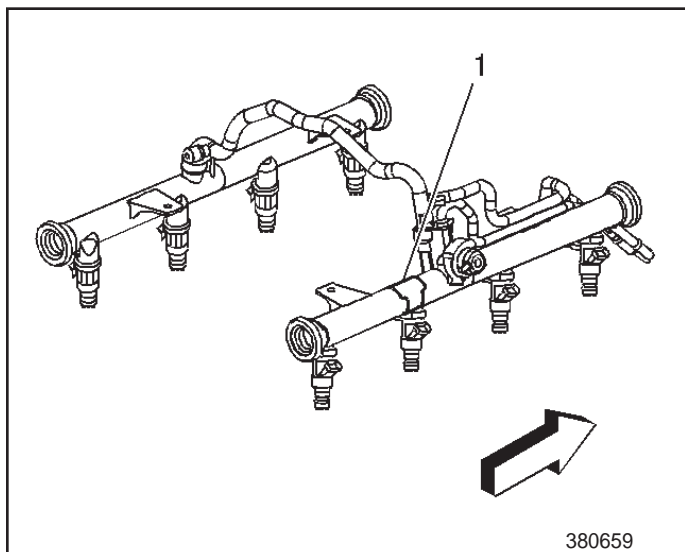

Figure 3-3 - Fuel Rail Assembly
The fuel rail (Figure 3-3) is mounted to the engine intake manifold, and performs several functions. It positions the injectors (3) in the intake manifold, distributes fuel evenly to the injectors, and integrates the fuel pressure regulator (2) into the fuel metering system.